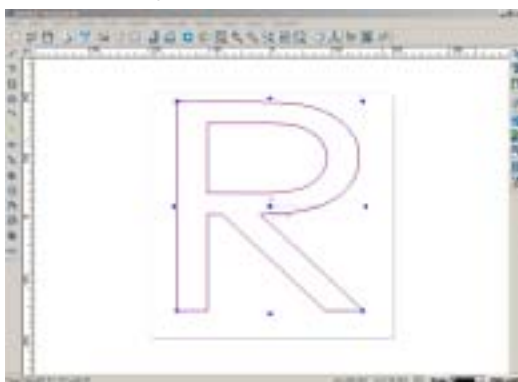

Fig. 10-42
2. Select an end mill tool with a diameter of 3.175, height of 10, total depth of 10, interspace of 0.3, anticlockwise, and the result is shown in Fig. 10-42.